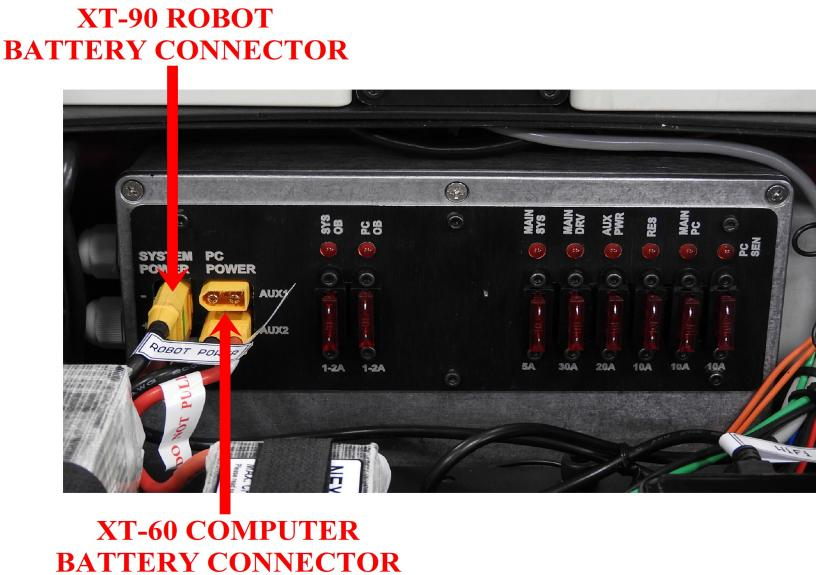

Figure 5.2: Fuse panel box
Step 2: Robot battery has XT-90 female connector labeled as “ROBOT POWER” sticker. Connect XT-90 female connector of battery to XT-90 male connector of fuse panel box. Refer fuse panel box from figure 5.2 for robot battery connections.
Step 3: Computer battery has XT-60 female connector labeled as “CPU POWER” sticker. Connect XT-60 female connector of battery to XT-60 male connector of fuse panel box. Refer fuse panel box from figure 5.2 for computer battery connections.